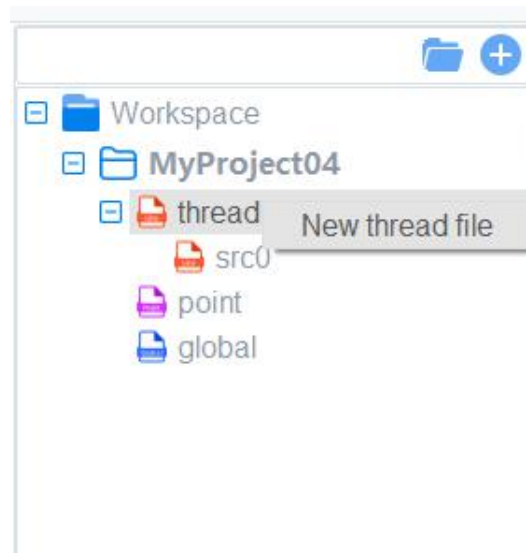

Figure 3.12 Create a project
**Step 3** Set the number of threads based on site requirements, as shown in Figure 3.12. Click **thread** and right-click **New thread file**.